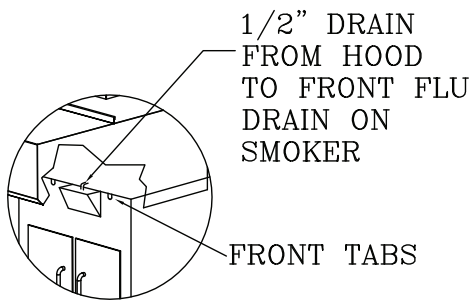

Figure 1
4. Line up hood so it is pushed all the way back so the front tabs of the hood will be secured to smoker oven. (See Figures 1 & 2)